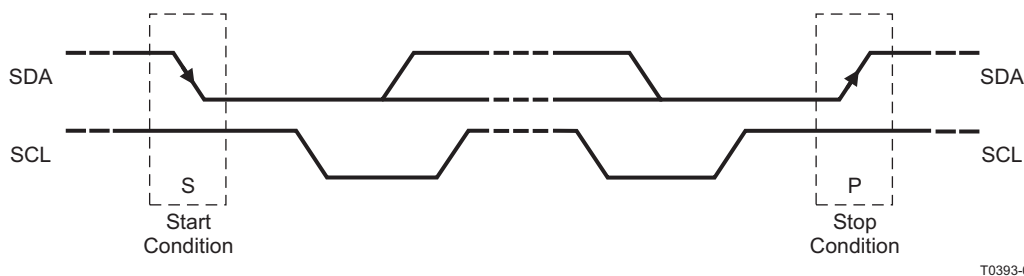

Figure 38. I²C Start and Stop Conditions
The basic I²C start and stop access cycles are shown in Figure 38.
transition occurs on the SDA line while SCL is high, as shown in Figure 38. All I²C-compatible devices should recognize a *start condition*.
- To signal the end of the data transfer, the master generates a *stop condition* by pulling the SDA line from low to high while the SCL line is high (see Figure 38). This releases the bus and stops the communication link with the addressed slave. All I²C compatible devices must recognize the stop condition. Upon the receipt of a *stop condition*, all devices know that the bus is released, and they wait for a *start condition* followed by a matching address.